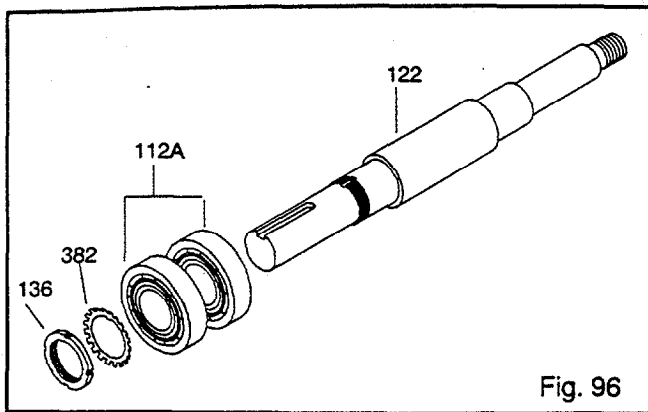

Fig. 96
2. Install outboard bearings (112A) on shaft (122) (Fig. 96).